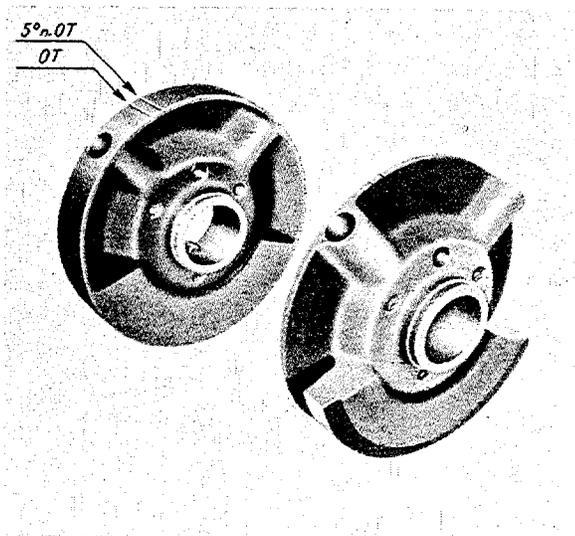

Fig. M 17/00
**Note:** Of the two counterweights shown in Fig. M 17/00, the left one is for Type 220, whereas the right one is for Type 220a.